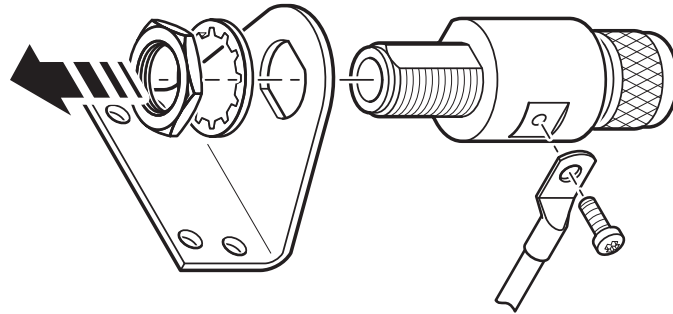

Figure 9.1: Assembly of the MBG S-PRO Surge Protector
2. Fit the MBG-S-PRO surge protector to the mounting bracket as shown in Fig. 9.1. The MBG S-PRO has no dedicated input or output polarity and therefore has no preferred installation orientation.